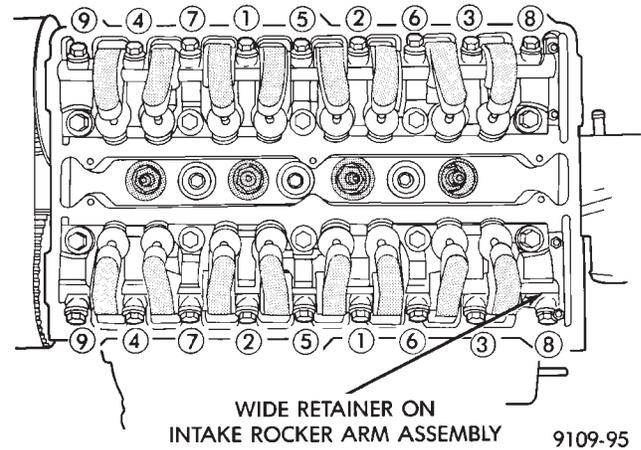

Fig. 13 Rocker Arm Shaft-Installation
- (12) Recheck belt tension, adjust if necessary.
- (13) Torque rocker arm shafts in sequence shown (Fig. 13) to 12 N·m (105 in. lbs.) then to 24 N·m (210 in. lbs.).
- (14) Install valve covers, spark plugs, ignition cables and ignition cable cover.
- (15) Install air cleaner fresh air duct.
- (16) Raise vehicle. Install lower timing belt cover and accessory drive belt tensioner pulley. Refer to procedure in this section.